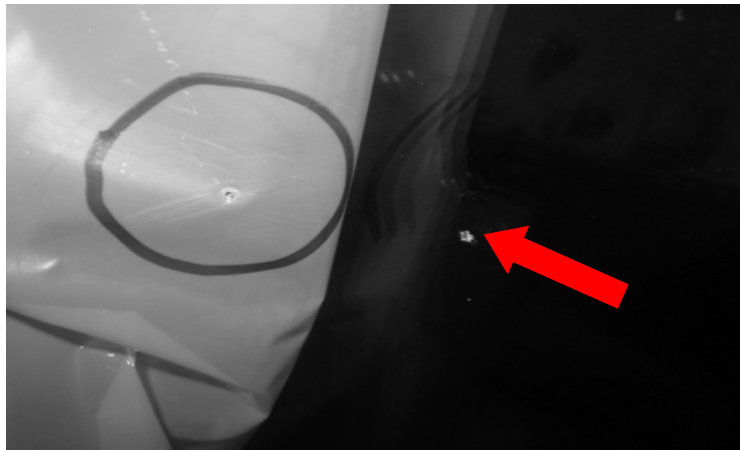

FIGURE 2-3: DEFECTS THROUGH PROTECTIVE FILM AND ONTO LINER SURFACE
- a. When the window is ordered with acrylic liner, the customer has the option of receiving the liner with or without protective film placed on the surface towards the interior of the bus. The protective film must be in good condition with no evidence of scratches, gouges or missing film coverage. Refer to **Figure 2-3** and **2-4**.